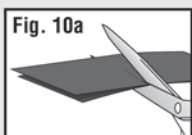
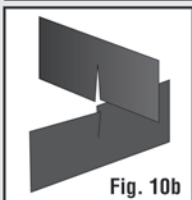

Fig. 10a
Fig. 10b
- Place the two strips on top of each other and cut a notch half-way up (Fig. 10a). Assemble as shown (Fig. 10b).